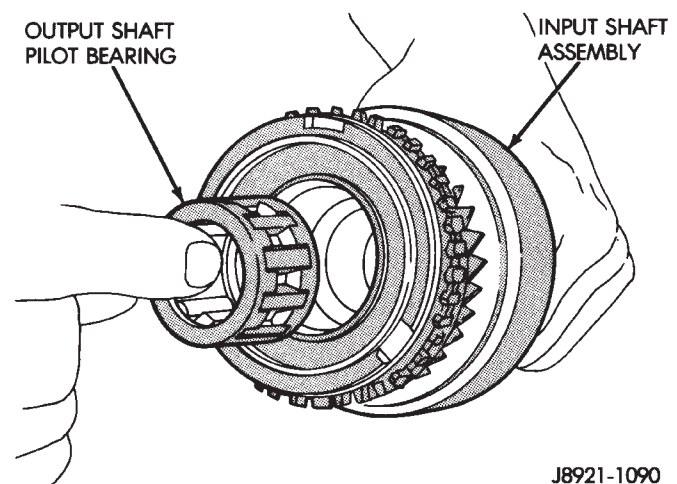

Fig. 60 Input Shaft Pilot Bearing Removal
(8) Remove output shaft pilot bearing from input shaft (Fig. 60).